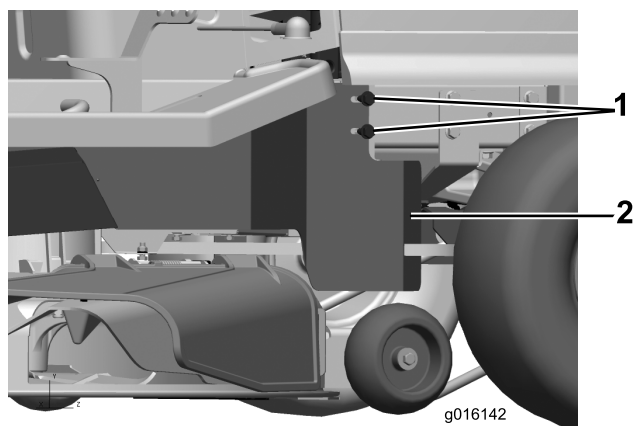
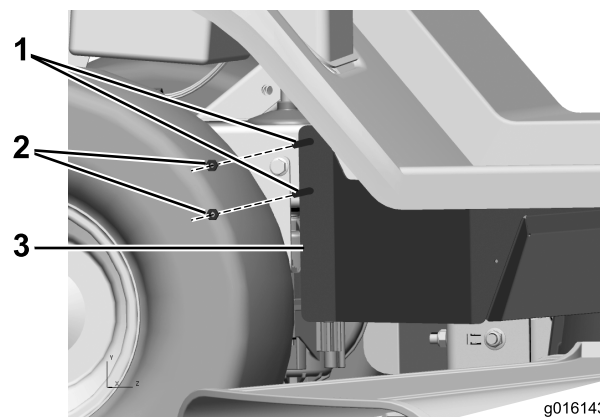

Figure 7
Figure 8
1. Attach the right frame belt guard as shown in Figure 7 and Figure 8.